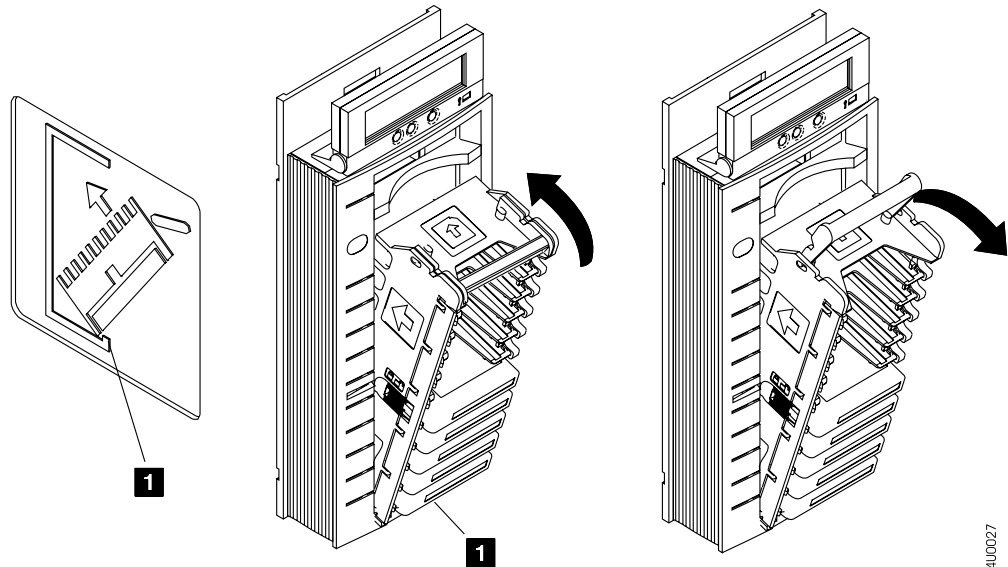

Figure 15. Inserting and Removing the magazine from the ACF
Figure 15 shows how to insert or remove the magazine from the ACF. Use two hands to load the magazine in the ACF as follows:
2. Insert the lower front of the magazine into the ACF as shown in Figure 15 so that the front of the magazine is inside the ACF lip 1.